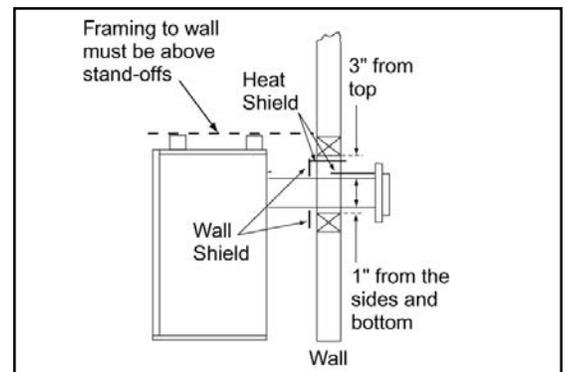

Figure 2 - Rear Vented Appliances Venting Clearances
b. Minimum Venting Clearances (see Figure 2).